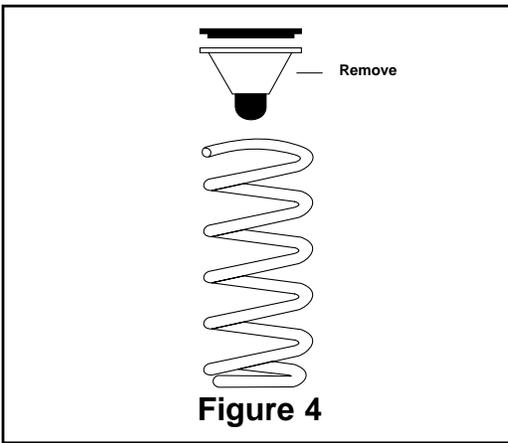

Figure 4
- A. Remove upper bound bumper/cone assemble with coil spring. These should be discarded as the function will be replaced by the air cylinders (Figure 4).